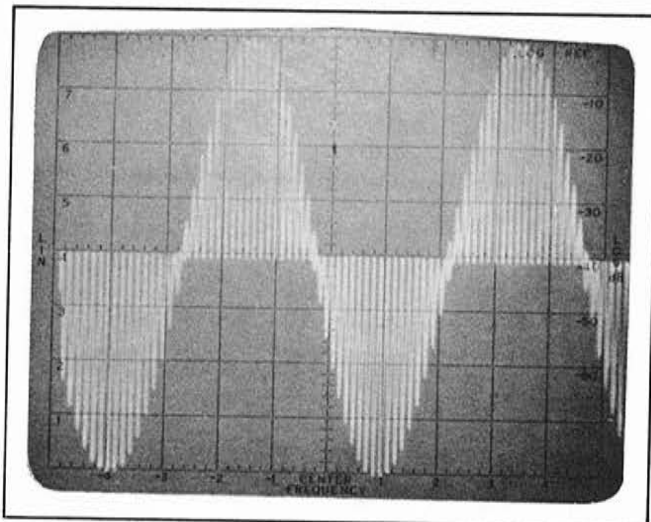

Figure 2-13 Stereo Separation Check, Initial Waveform
- f. Adjust the oscilloscope sensitivity and timebase as required to obtain a display as shown in Figure 2-13 (8 centimeters peak-to-peak).